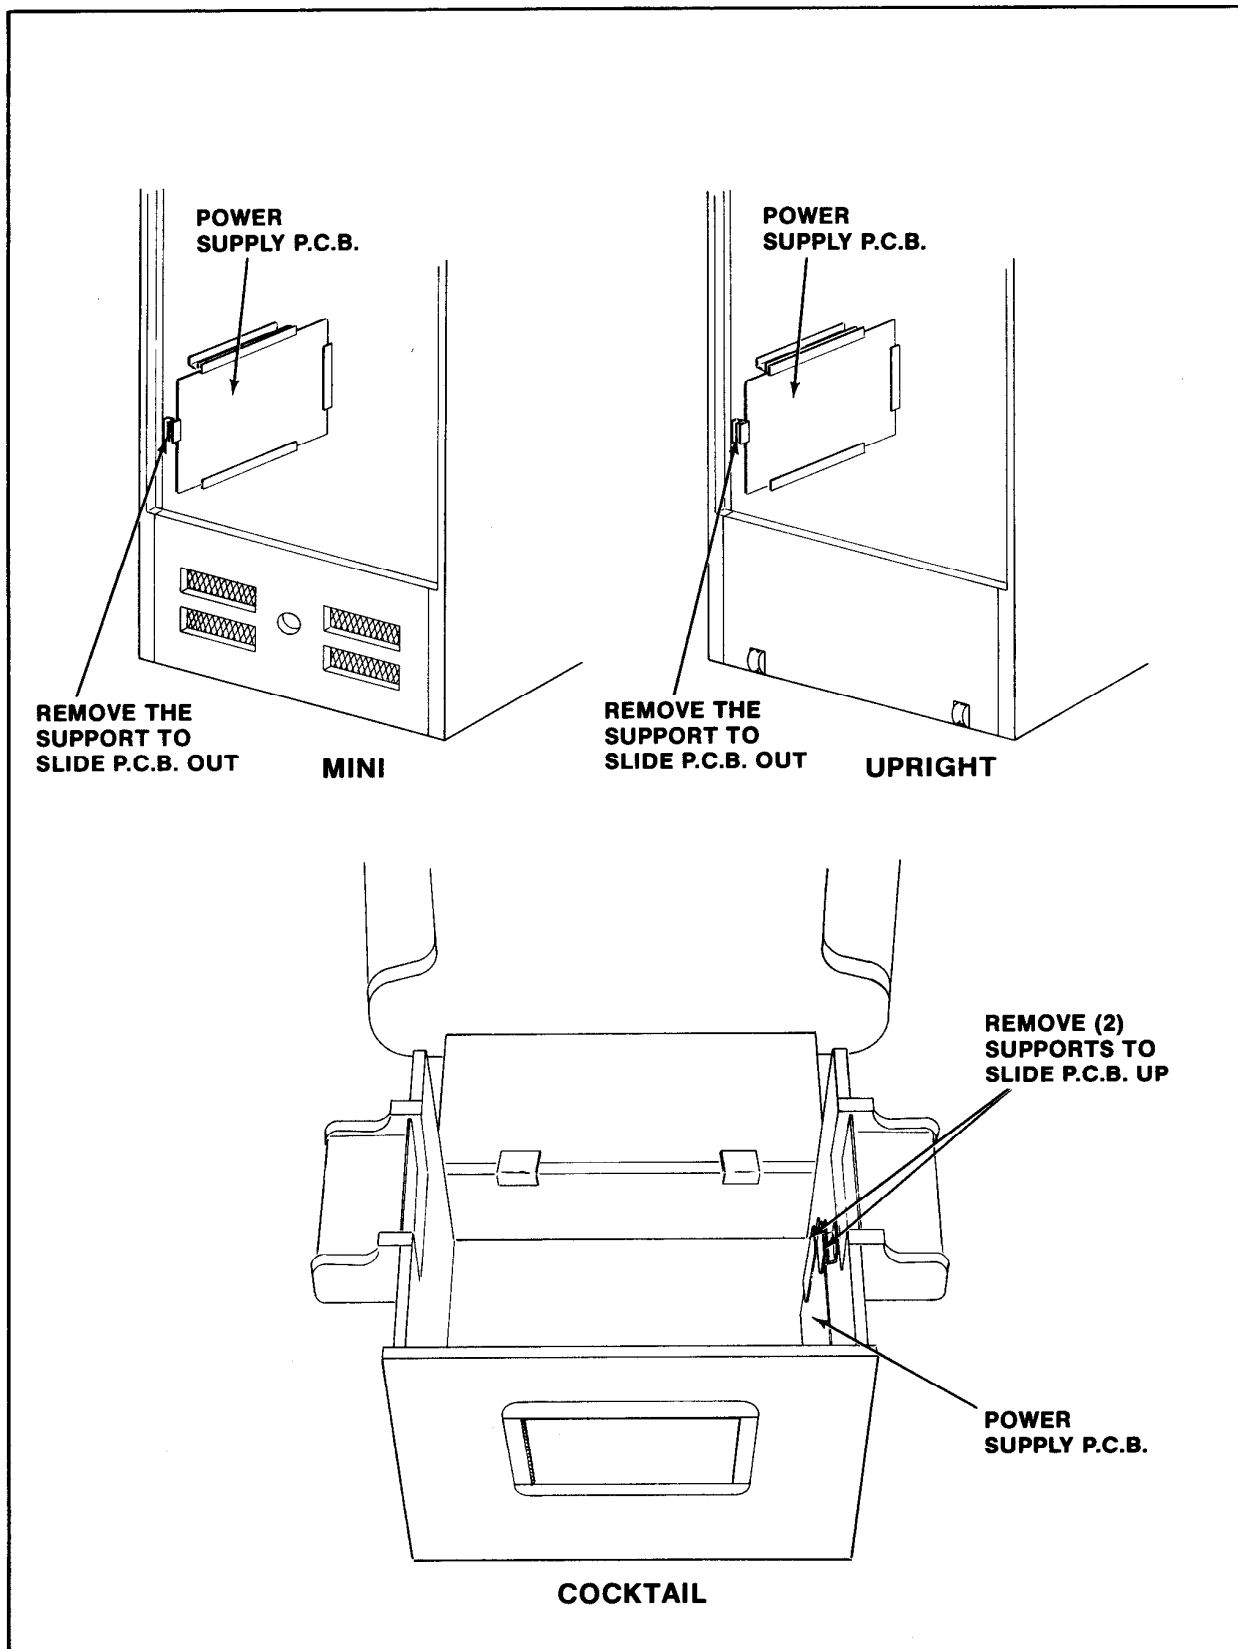

Figure 9. P.C.B. replacement
1. UPRIGHT MODEL. SEE FIGURE 9
2. MINI MODEL. SEE FIGURE 9
- Disconnect the power supply board from all its cabling, remove the P.C.B. supports indicated in Figure 9, and slide it out the back of the cabinet.
3. COCKTAIL TABLE MODEL. SEE FIGURE 9.